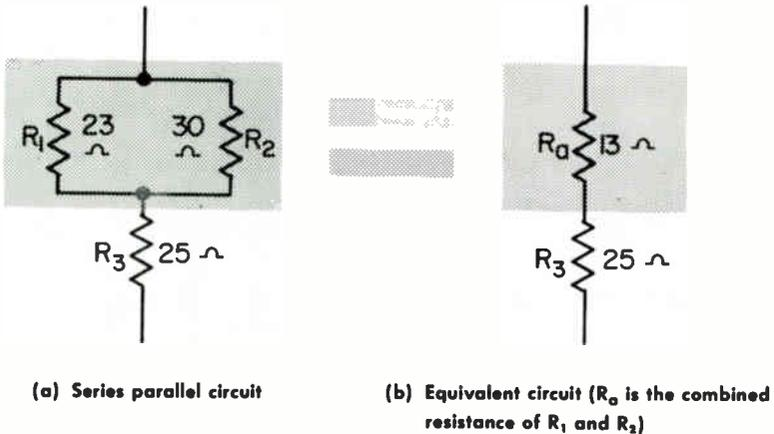

Fig. 1 Series-parallel circuit with equivalent circuit.
Figure 1(a) shows a series-parallel circuit in which resistors R_1 and R_2 are connected in parallel, and this combination is connected in series with R_3 . To find the total resistance of the circuit, first find the combined resistance of R_1 and R_2 (shown in Fig. 1(b) as R_a), and then find the total series resistance (R_a plus R_3).
Example 1 . . . In Fig. 1(a), if R_1 is 23Ω (ohms), R_2 is 30Ω , and R_3 is 25Ω , what is the total resistance of the circuit?
4. Suppose that the values of R_1 , R_2 , and R_3 in Fig. 1(a) are 14, 18, and 22 Ω , respectively. Suppose also that this series-parallel circuit is connected to a 90-V source. The combined resistance of R_1 and R_2 is (a) _____ Ω . The combined resistance of R_1 , R_2 , and R_3 is (b) _____ Ω . The 90-V source supplies (c) _____ A to the circuit. The current through R_3 is (d) _____ A. The voltage drop across R_3 is (e) _____ V; that across R_1 is (f) _____ V; and that across R_2 is (g) _____ V. The current through R_1 is (h) _____ A, and that through R_2 is (i) _____ A.
5. Suppose, in Fig. 1(a), that the value of R_1 is 27 Ω , the value of R_2 is 34 Ω , and the value of R_3 is 58 Ω . If the circuit is connected to a 100-V source, the current through R_3 is _____ A, the current through R_1 is _____ A, and the current through R_2 is _____ A.
6. In Fig. 1(a), the value of R_1 is 5 Ω ; R_2 is 20 Ω ; and R_3 is 6 Ω . The circuit is connected to a voltage source. The current through R_1 is 3 A. The voltage across R_1 is (a) _____ V, and the voltage across R_2 is (b) _____ V. The current through R_2 is (c) _____ A, and the current through R_3 is (d) _____ A. The voltage across R_3 is (e) _____ V, and the source voltage is (f) _____ V.
7. In Fig. 1(a), R_1 is 240 Ω , R_2 is 80 Ω , and R_3 is 650 Ω . The circuit is connected to a voltage source. The current through R_1 is 30 mA (milliamperes), or (a) _____ A; the current through R_2 is (b) _____ mA; and the current through R_3 is (c) _____ mA. The voltage across R_1 is (d) _____ V; across R_2 , (e) _____ V; and across R_3 , (f) _____ V.